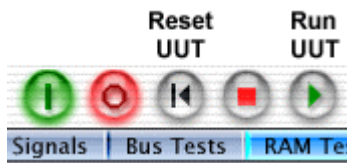

Fig. 2 – μ Master Toolbar buttons: Run UUT boots the board, after Power ON.
3. Power up the board and boot it to Windows. This can be done from the μ Master Toolbar (fig. 2).